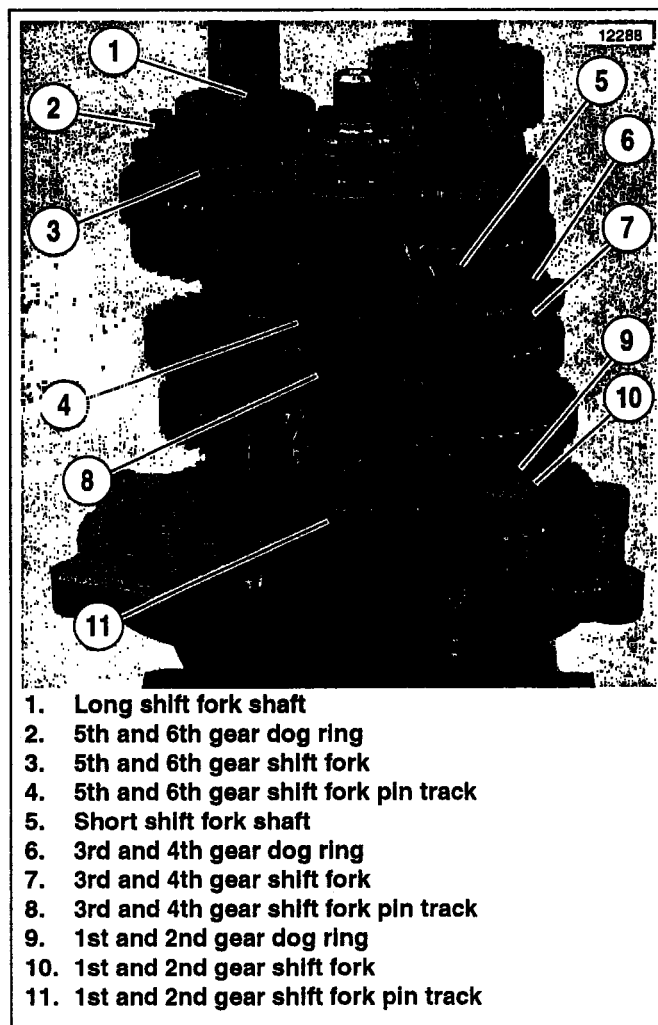

Figure 13. Assembling Shift Forks and Shafts
6. See Figure 13. Insert shift fork (3) into slot of dog ring (2) between mainshaft 5th and 6th gear. Ensure shift fork pin is in correct track (4) in shift cam.
7. Slide long shift fork shaft (1) down into hole in bearing housing. Gently tap on end of shaft with a soft faced mallet until shaft bottoms out in hole.
8. Insert shift fork (7) into slot of dog ring (6) between countershaft 3rd and 4th gear. Ensure shift fork pin is in correct track (8) in shift cam.
9. Insert shift fork (10) into slot of dog ring (9) between countershaft 1st and 2nd gear. Ensure shift fork pin is in correct track (11) in shift cam.
10. Slide short shift fork shaft (5) down and into hole in bearing housing. Gently tap on end of shaft with a soft faced mallet until shaft bottoms out in hole.